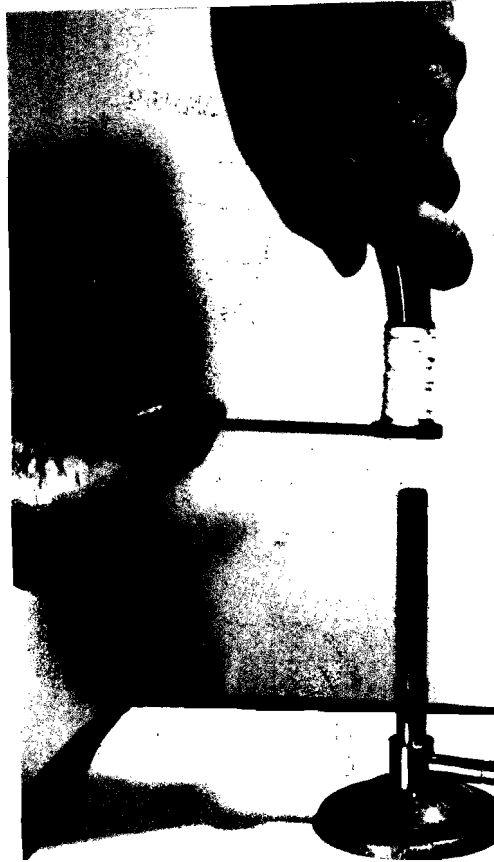

Figure 64
5. Wrap cotton cord around the cork (Figure 64).
6. Holding the cork protector over the neckpipe end, heat the neckpipe bore with the bunsen burner (Figure 64), until the shellac is again melted. (The cork should twist easily on the neckpipe.)